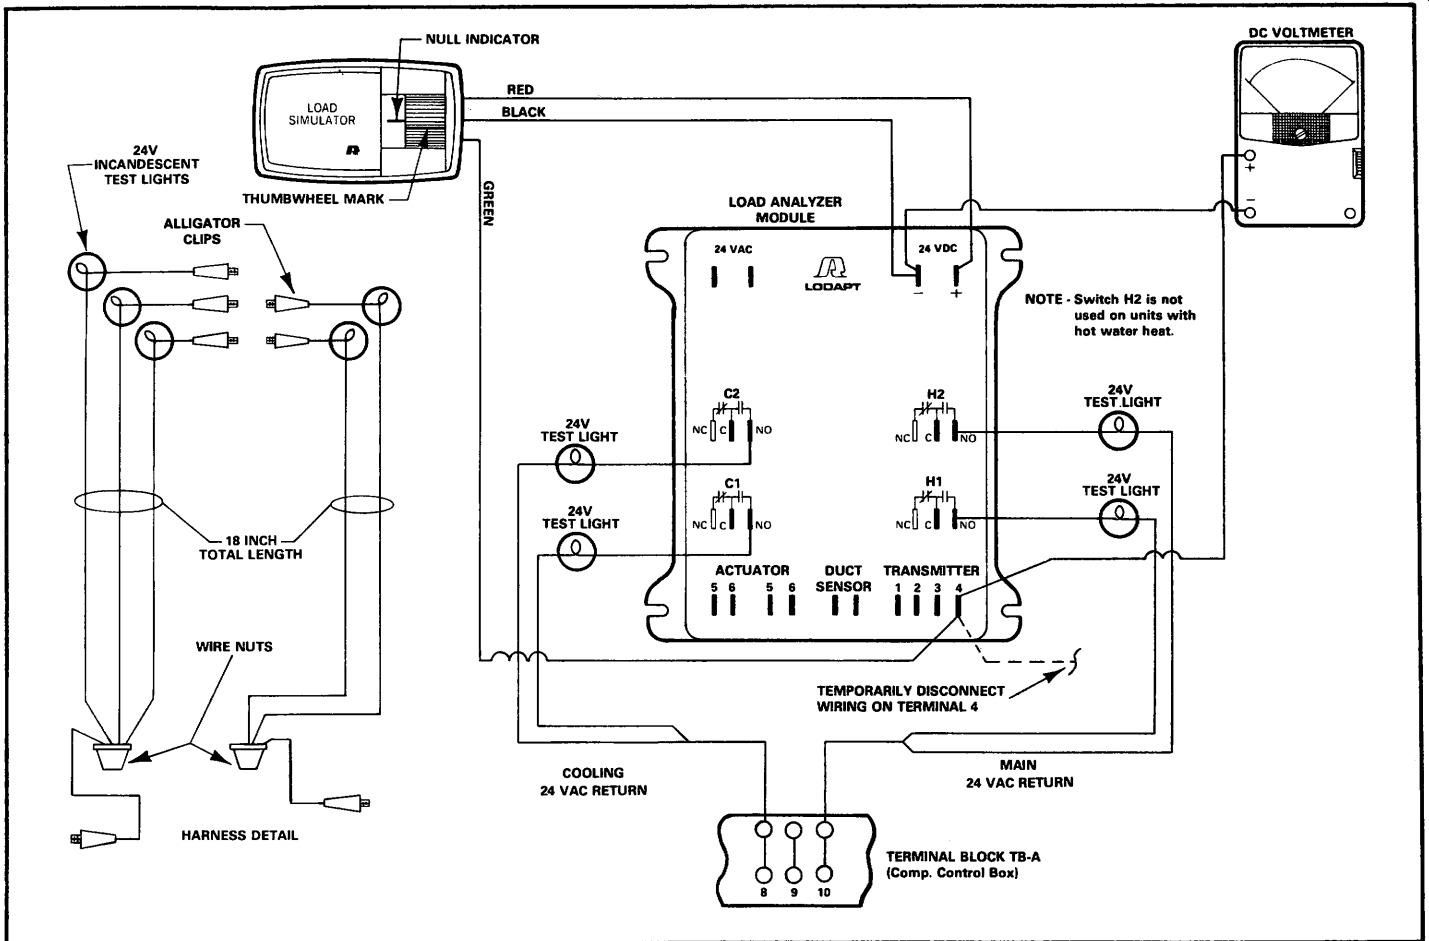

FIGURE 8
- Connect load simulator as shown in Figure 8.
3 - Null the load simulator by aligning thumbwheel mark with null indicator. See Figure 8.
- 2 - Connect test lights or 24 VAC voltmeter to heating logic relays as shown in Figure 8.
- 1 - Connect DC voltmeter negative lead to 24 VDC (-) terminal and positive lead to "4" terminal to obtain cooling command signal. Connect test lights to cooling logic relays. See Figure 8.